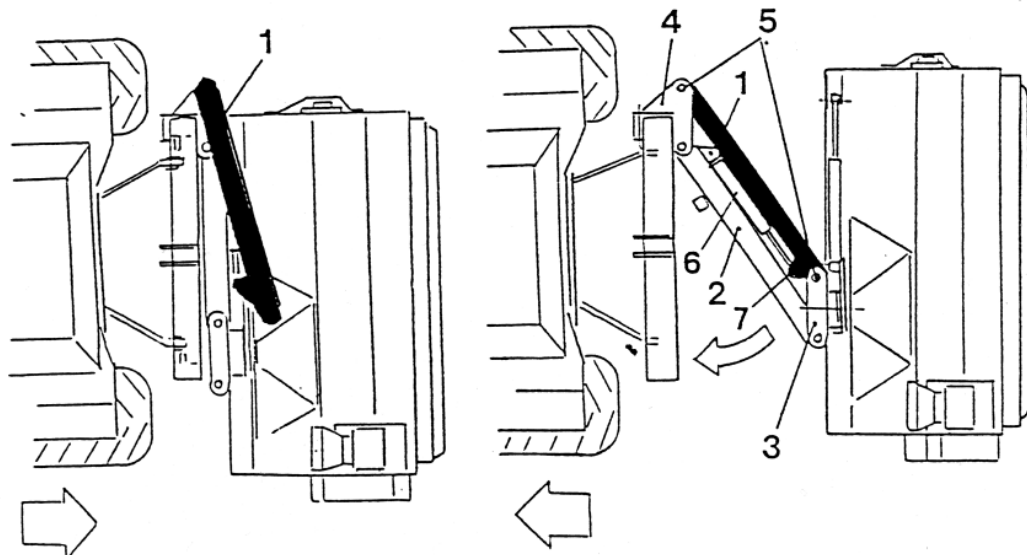

FIG. 18
- Remove the arm 2 as shown on FIG. 18.